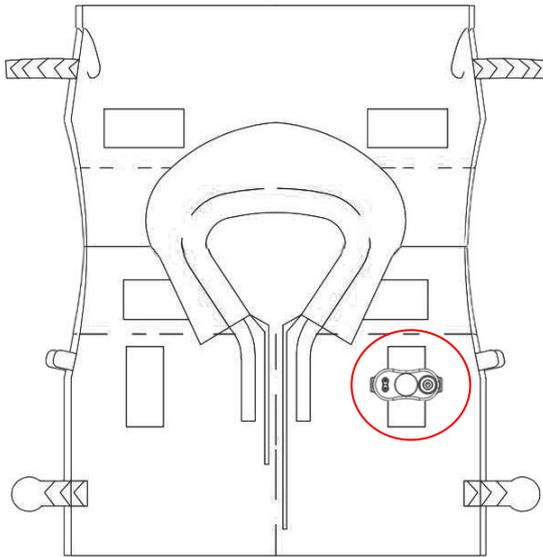
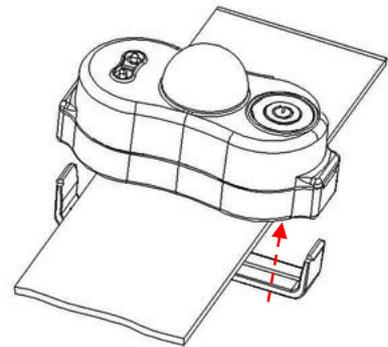

Figure 3-1
Figure 3-2
LNK-LJ-03A1 and LNK-LJ-03A1W lifejacket lights are supplied with fix buckles. The buckle is normally placed behind a belt of lifejacket or fixed through the fiber at suitable position near the shoulder of lifejacket. The users must ensure the light can provide maximum visibility after installation, meanwhile the water sensors can contact with water when the life jacket drops in the water. The typical installation is shown as Figure 3-1:
- 3.2.3 Installation procedures are show as below pictures. Figure 3-1 shows the example installation position of the light. Figure 3-2 shows the installation steps of the lights.